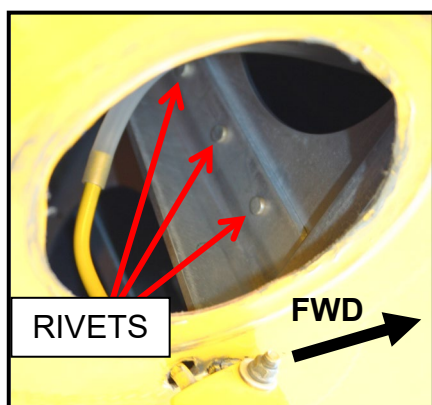

FIGURE 4 – FWD RIVET REMOVAL
13. Remove the three rivets from the existing bracket, and remove the bracket (see Figure 4).